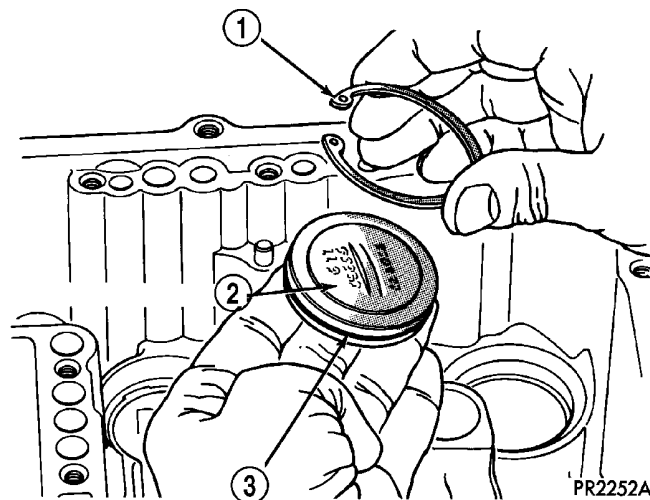

Fig. 70 Accumulator Plate and Snap Ring
(30) Install accumulator plate (Fig. 70) and place snap ring into position for installation.